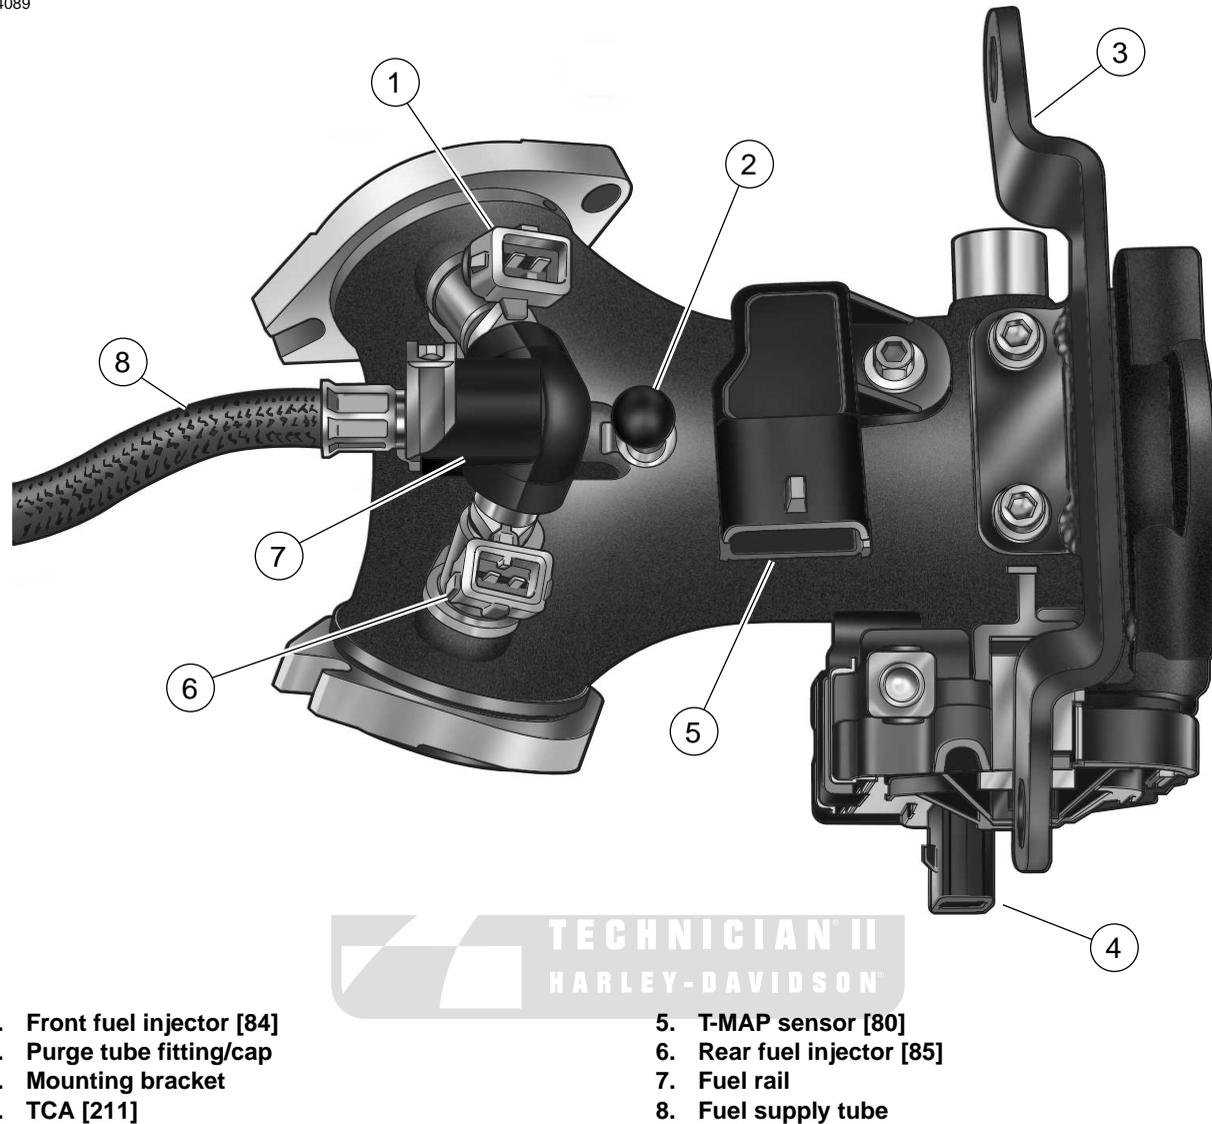

Figure 4-26. Induction Module Assembly
3. Pull purge tube from fitting at top of induction module (California models only). See Figure 4-26.
3. Orient the induction module as shown in Figure 4-26. Standing on right side of motorcycle, slide induction module toward installed position so that open-ended slots on flange adapters engage socket screws loosely installed on left side.